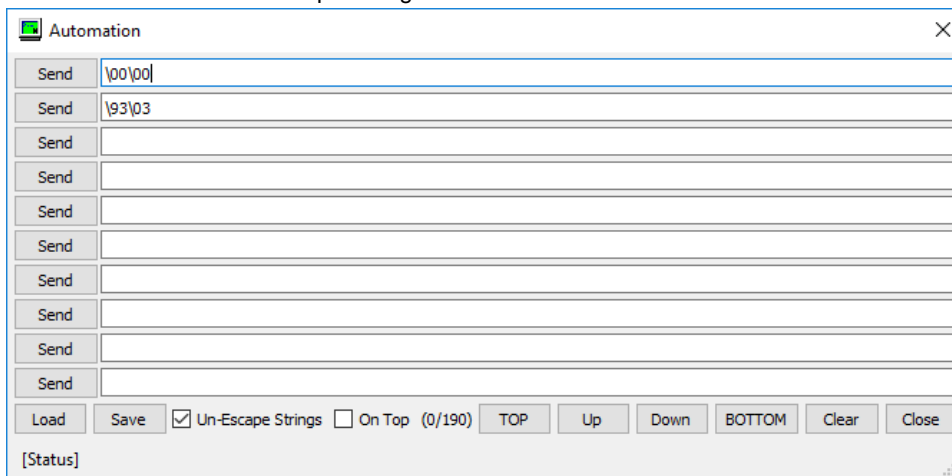

Figure 11: Automation dialogue for entering DTM commands
- In the following screen, modify the fields as shown in Figure 11.